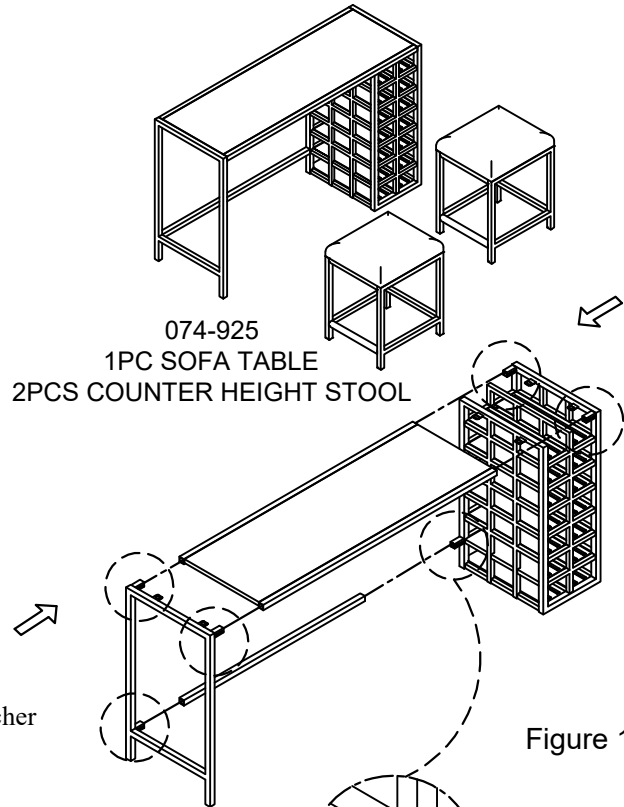

Figure 1
Step 1. Insert the side frame+top panel and bottom stretcher into wire rack. Tighten Bolt by Allen Wrench (E) as shown in Figure 1.